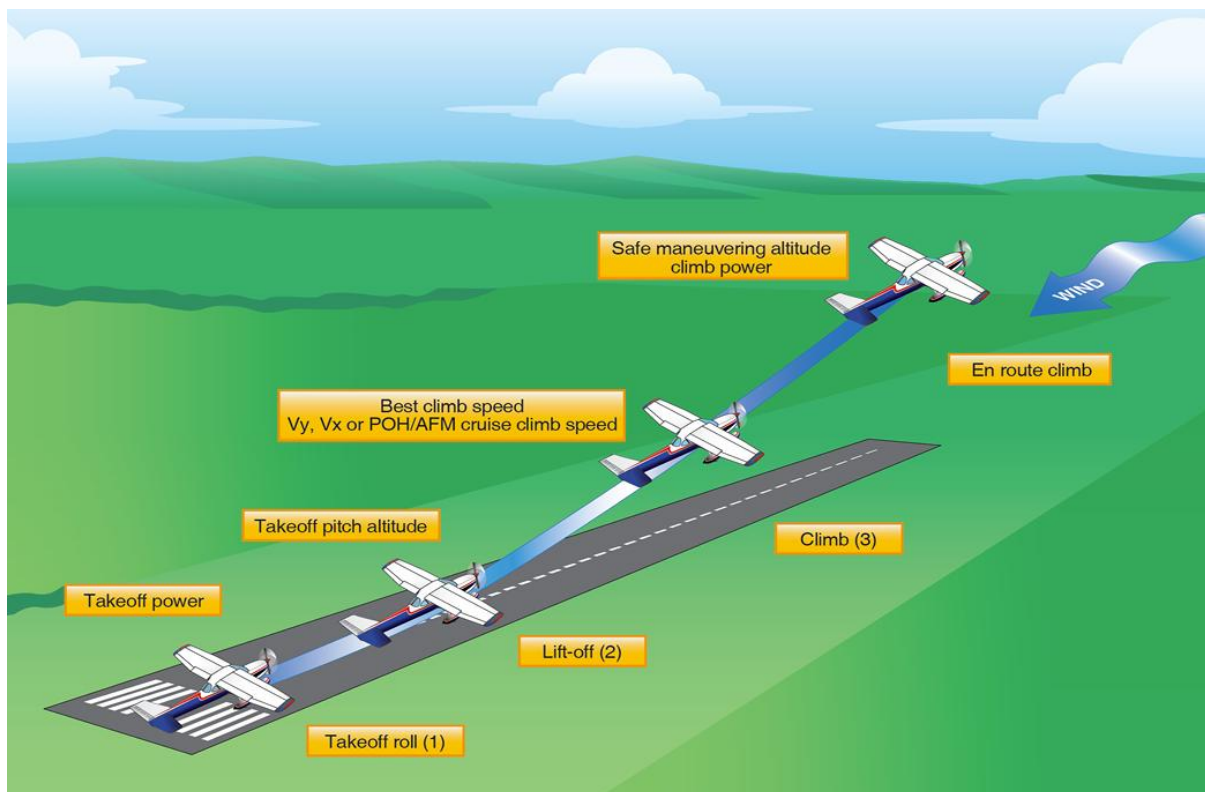

Figure 1. Illustration of Take-off maneuver up to the safe maneuvering altitude [1].
Take-off maneuver is defined as the process of an aircraft to progress from a standing still on a runway to airborne at a certain height above it. The process involves changing engine settings and aircraft configurations, as well as a specific pilot input to achieve the desired final condition. The take-off process is depicted in Figure 1. The actual take-off process is considered to be completed when the best climb speed is achieved at the specified height (Climb (3) mark).